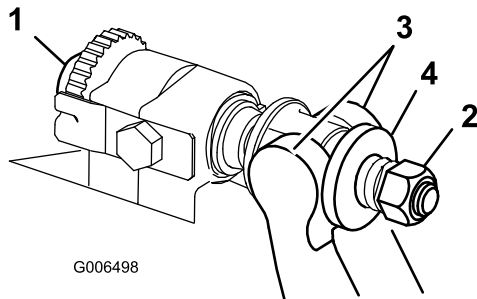

Figure 34
1. Turn bedbar adjuster screws, counterclockwise, to back bedknife away from reel (Figure 34).
2. Back out the spring tension nut, until the washer is no longer tensioned against the bedbar (Figure 34).